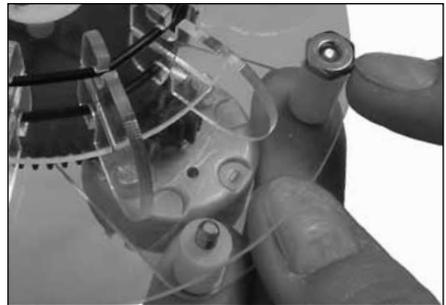

Figure 12
15. With the two nuts, secure the two screws (Figure 12).